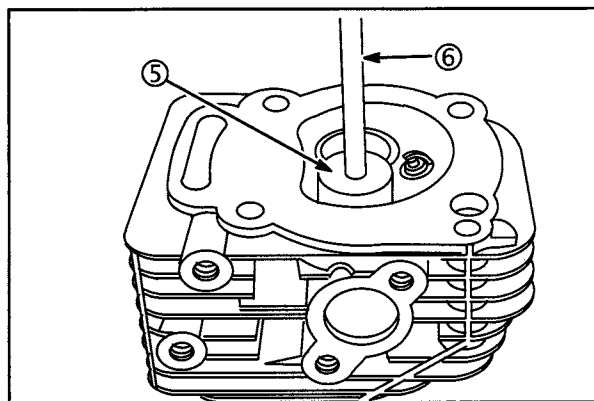

Fig. 13
3. Use Reamer Pilot Guide #19345 (5) and Finish Reamer #19444 (6) to ream new valve guide, Fig. 13.